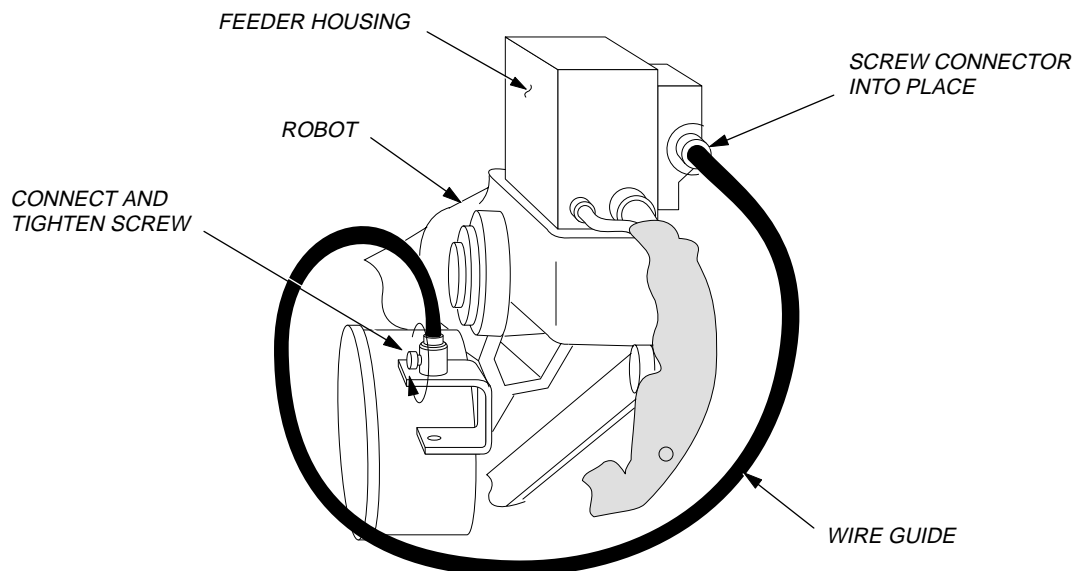

Figure 4-5 Installing the Wire Guide
2. Install connector end of wire guide into feeder housing (see Figure 4-5) by turning connector clockwise until hand-tight.